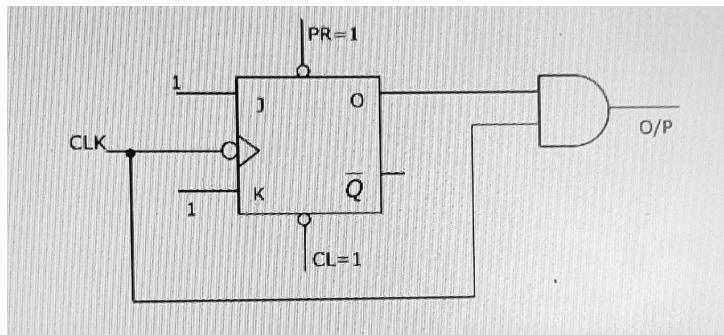

Fig. 5.19
19. The digital circuit shown in Fig. 5.19 generates a modified clockpulse at the output. Sketch the output waveform.